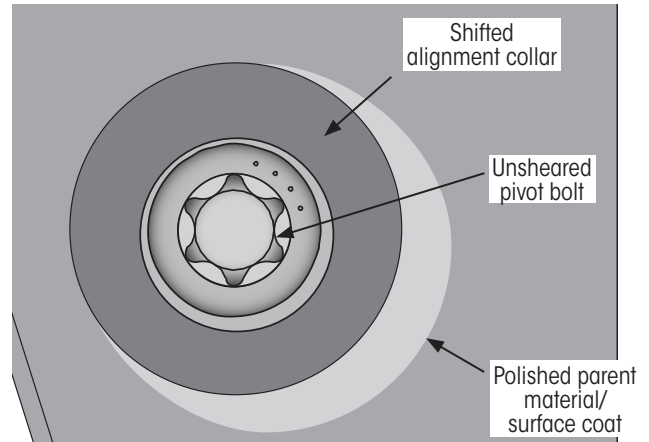
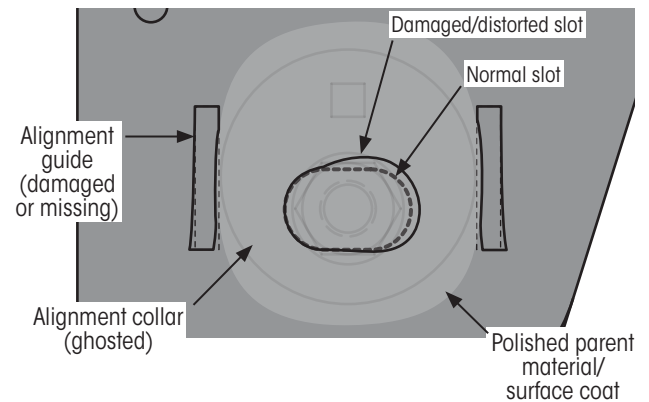

Figure 37: Loose pivot bolt, not sheared in this example
Figure 38: Damaged/distorted alignment slot
Refer to Figure 37 and Figure 38. The pivot bolt appears to be loose and the frame bracket side material is polished or surface coating is smudged from collar movement, or worse.
- A wallowed out alignment slot, See Figure 38